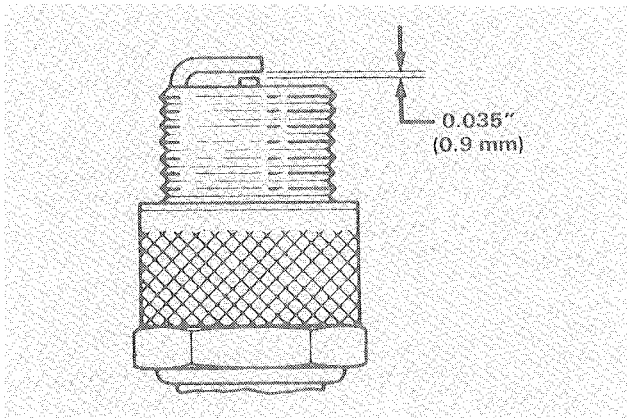

Figure 18
5. Set air gap between center and side of electrodes at 0.035 of an inch (0.9 mm) (Fig. 18). Install correctly gapped spark plug w/gasket seal, and tighten plug to 18 ft-lb (24.4 N·m). If torque wrench is not used, tighten plug firmly.